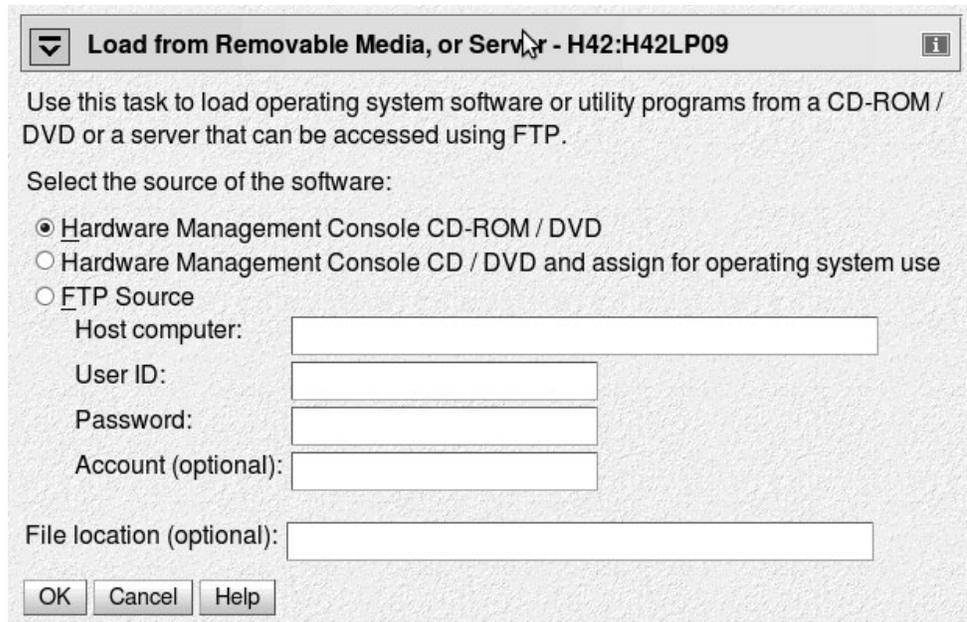

Figure 67. Load from Removable Media or Server panel
- a. Select **Hardware Management Console CD-ROM/DVD** (see Figure 67 on page 379).